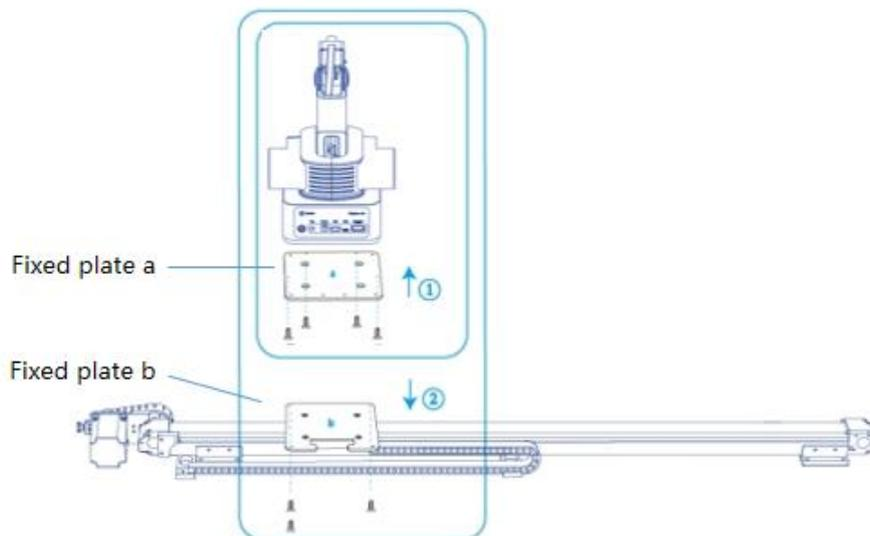

Figure 5.46 Fix Magician Lite
- Step 2** Fix the plate a (with Dobot Magician Lite) on the plate b with three M3*8 hexagon socket head cap screws. Please make the back of the base of Dobot Magician Lite towards the rabbet on the plate b, as shown in Figure 5.46.